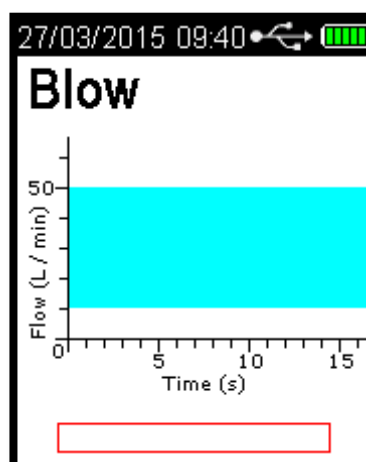

Figure 7 Blow is displayed when the instrument is ready
- BLOW will be displayed when the instrument is ready (Refer Figure 7).